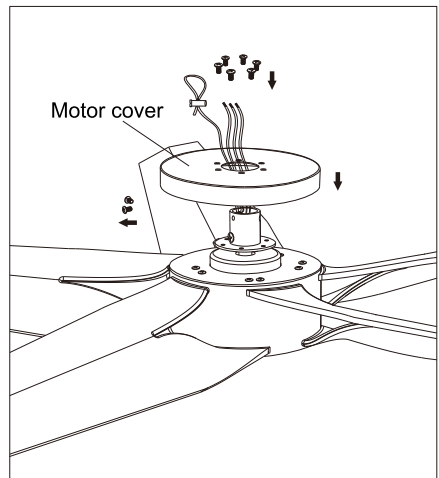

Figure 2.2
- Place the motor cover on top and align it with the hole position, and tighten the six screws. (Figure 2.2)